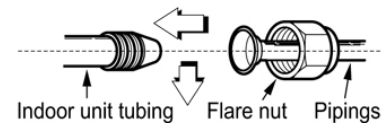

Fig.51
- Sufficiently tighten the flare nut with fingers, and then tighten it with a spanner and torque wrench as shown in Fig.51 & 52.